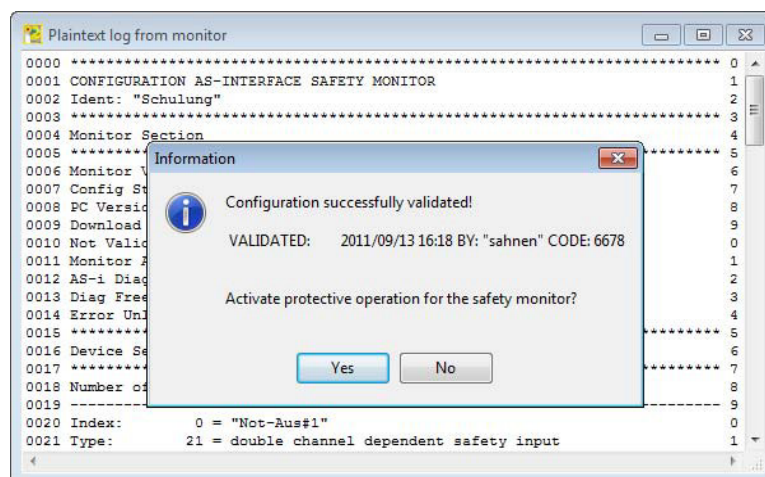

Figure 16. Configuration successfully released
- Confirm the message with „Yes“ as shown in Figure 16.